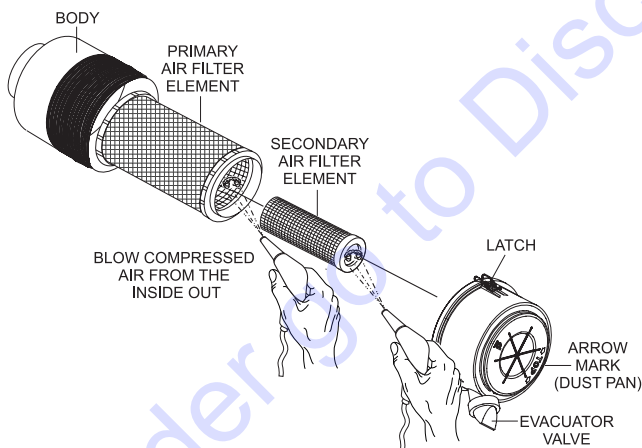

Figure 48. Engine Air Cleaner
This Isuzu diesel engine is equipped with a replaceable, high-density, paper air cleaner element (Figure 48). The air cleaner is also equipped with an inner (secondary) element that is used as a backup filter should the primary element become damaged. Check the air cleaner daily or before starting the engine. Replace the air cleaner as needed.
1. Release the latches that secure the cover to the air cleaner body (Figure 48).
2. Remove the **air cleaner cover** (Figure 48) and set it aside.
3. Remove both the primary and secondary air cleaner elements (Figure 48).
5. To clean the **primary element** (paper air filter) as shown in Figure 48, tap the filter element several times on a hard surface to remove dirt, or blow compressed air, not to exceed 30 psi (207 kPa, 2.1 kgf/cm2), through the filter element from the inside out.
8. Clean the inside of the **air cleaner body** (Figure 48).